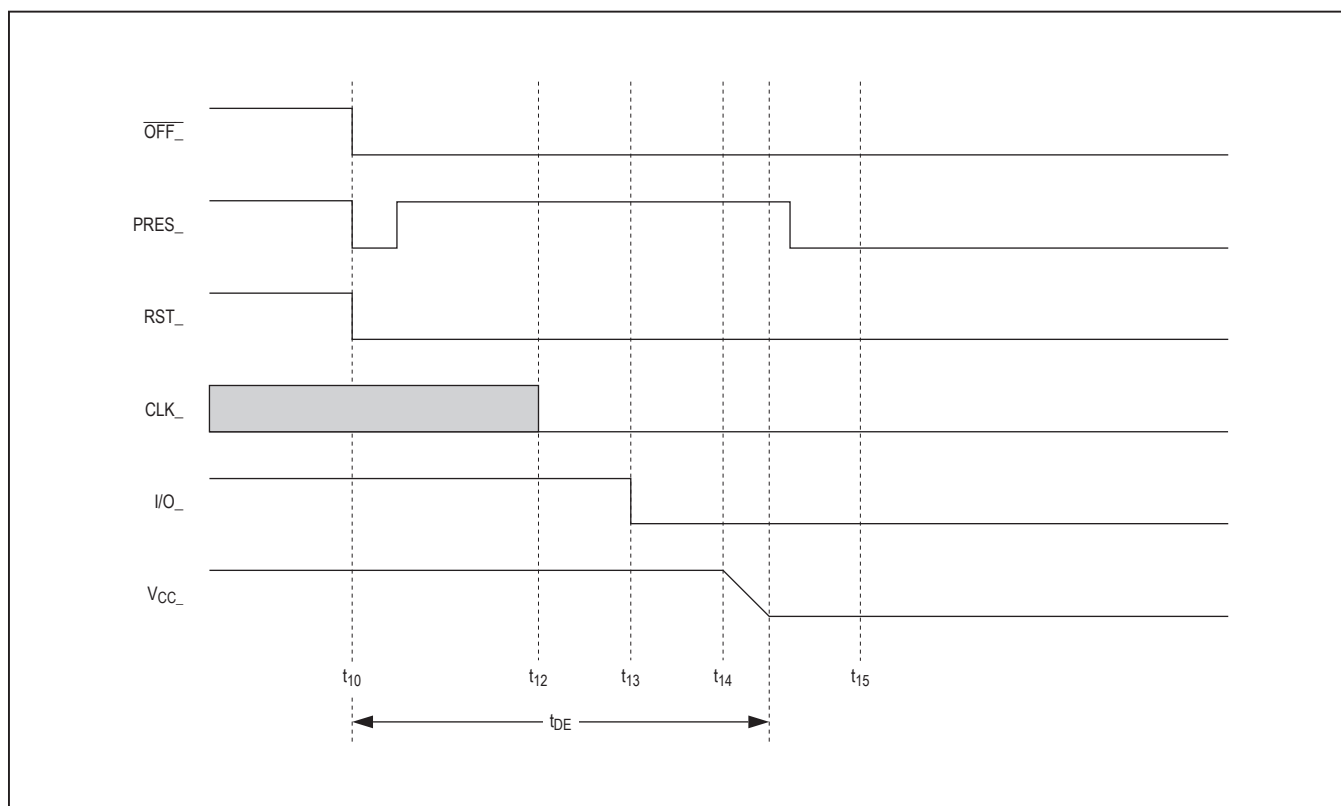

Figure 7. Emergency Deactivation Sequence (Card Extraction)
- **$\overline{CMDVCC}$  Low Within a Card Session.** Output  $\overline{OFF\_}$  goes low when a fault condition is detected, and an emergency deactivation is performed automatically (Figure 7). When the system controller resets  $\overline{CMDVCC}$  to high, it may sense the  $\overline{OFF\_}$  level again after completing the deactivation sequence. This distinguishes between a card extraction and a hardware problem ( $\overline{OFF\_}$  goes high again if a card is present). Depending on the connector's card-present switch (normally closed or normally open) and the mechanical characteristics of the switch, bouncing can occur on the PRES\_ signals at card insertion or withdrawal.